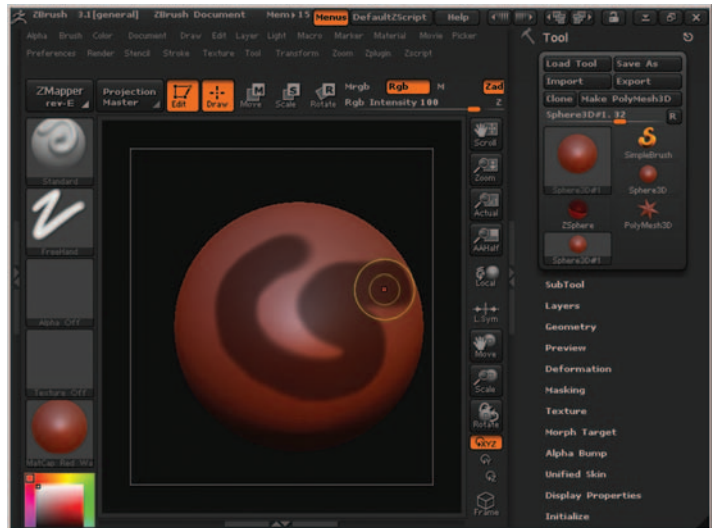

Figure 11.25 Sphere with a mask applied. The mask is the darker area. Note that the brush circles are yellow when creating a mask.
9. With the Ctrl key held down, draw a stroke on the Sphere3D object. You are presented with a darker area on the mesh indicating that the area has been masked. Figure 11.25 shows the Sphere3D object with a masked area. Figure 11.25 shows the Sphere3D object with a masked area.